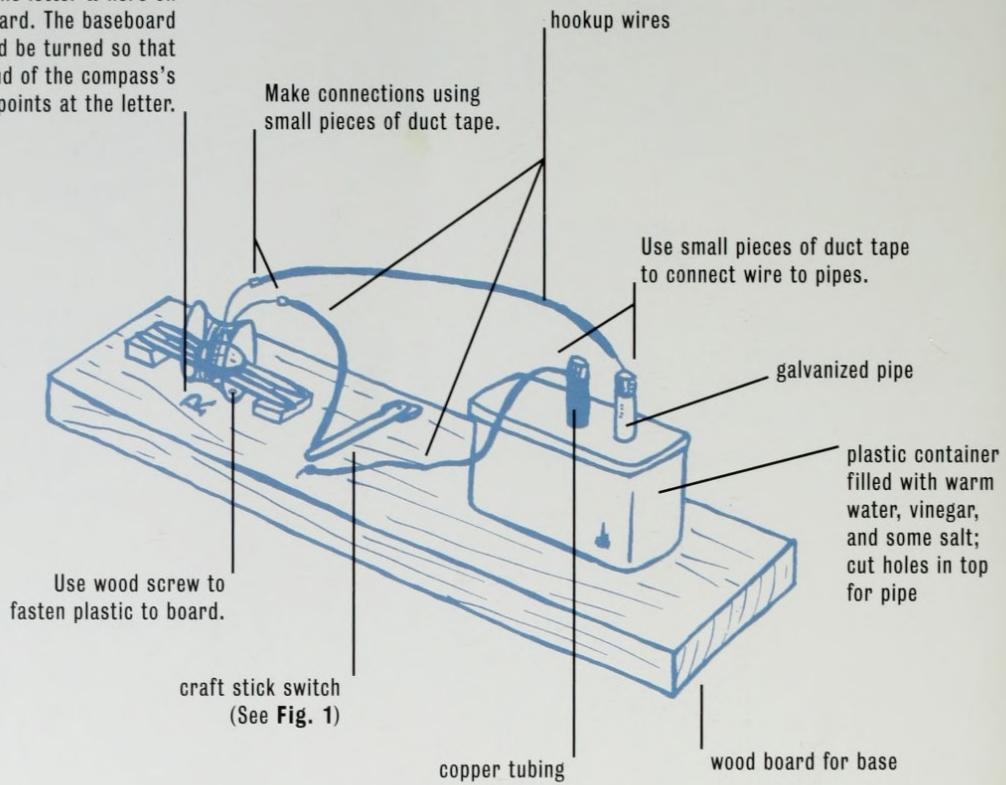

Fig. 3
5. Finally, use a pen to make an R on the board where shown in Fig. 3.
Try out your electricity detector by connecting a flashlight battery in place of the homemade battery shown in Fig. 3. Before connecting the battery, be sure to turn the detector so that one end of the needle points at the letter R.
To make this homemade vinegar-salt battery, use Fig. 3 as a guide. If you make it just right, this type of battery will create enough electricity to spin the compass's needle every time you press down on the craft stick switch!